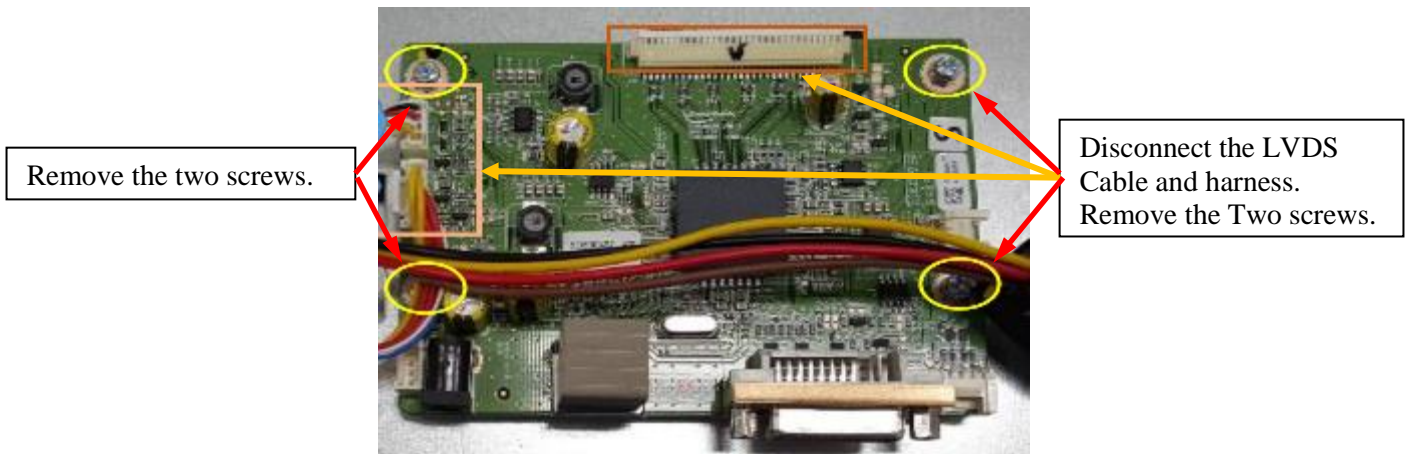

Figure 5.
- 2) Locate the A/D board as shown in Figure 5.
- 4) Disconnect the LVDS and converter harnesses from the A/D board and remove the four screws securing the A/D board to the monitor assembly. Retain the screws for later use. See Figure 5.
- 5) Install the new A/D board PN 300437 & 300950 with the four screws removed in Step 4 and reconnect the LVDS and converter harnesses. See Figure 5.